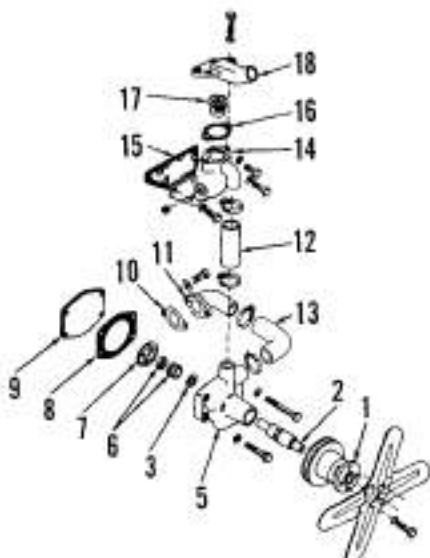

Fig. 82—Exploded view of water pump and thermostat housing.
83. **THERMOSTAT.** The thermostat (17—Fig. 82) is contained in a housing under the coolant outlet elbow (18). Thermostat should begin to open at 81°C (177°F) and should be fully open at 98°C (208°F).
To disassemble, remove back cover plate (9—Fig. 82). Remove pulley hub (1)